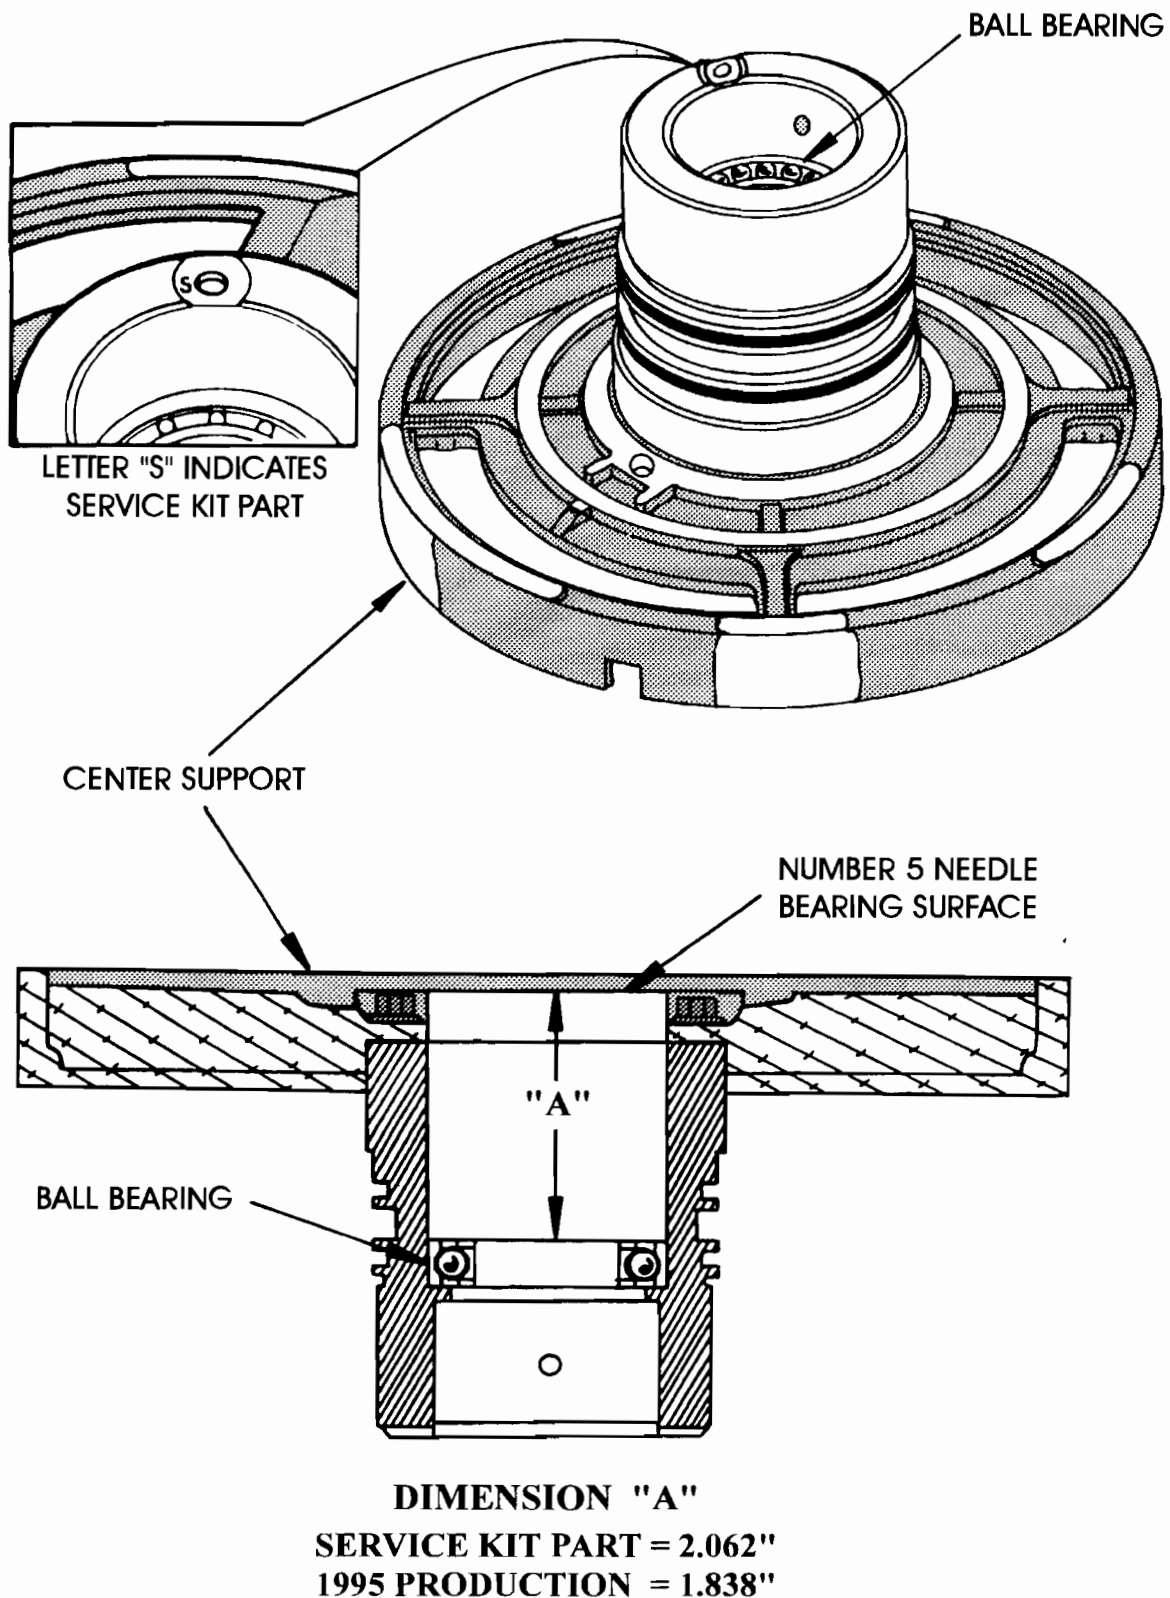

Figure 3
- (1) **CENTER SUPPORT** - Different machining dimensions on the inside bore, to accommodate an added ball bearing that will now support the overdrive center shaft. The new design ball bearing can be identified as a "Service Part", by the letter "S" stamped on the hub, in the location shown in Figure 3. The Service Kit Ball Bearing Center Support has different dimensions than the 1995 production ball bearing center support. Refer to Dimension "A" on the cutaway drawing in Figure 3.
- (1) This Service Kit will service all past model E4OD transmissions 1989 thru 1994 model years, when used in it's entirety, and is highly recommended on **all** previous model E4OD units.
- (2) The parts in this Service Kit are different dimensions than 1995 model year production parts and **will not** interchange with 1995 model parts (See Figures 3 and 4).